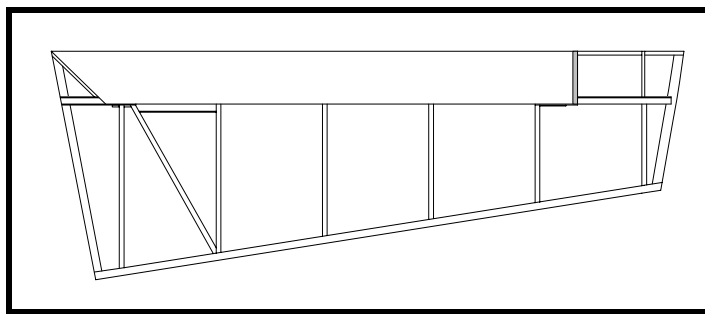

Figure 10
- ❑ Fit the leading edge skin. This will extend from the very bottom of the rudder to the upper face of the rib at Sta. 4-1/2. Do not bend the plywood at this time. See Figure 10.